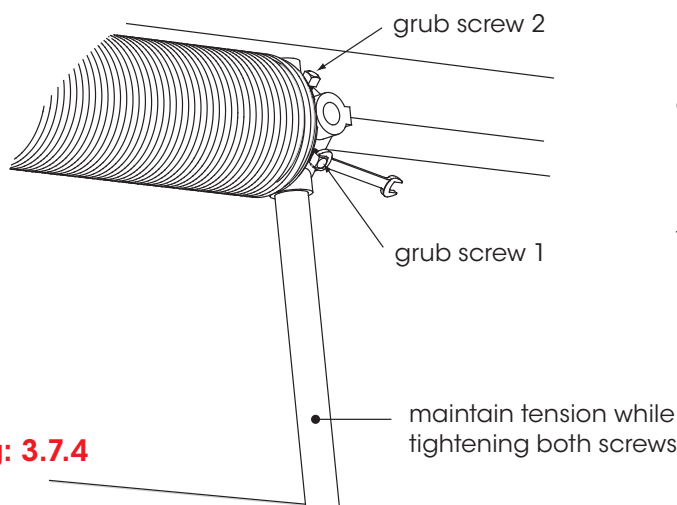

Fig: 3.7.4
d) Maintain firm tension on the winding bar, while using a spanner to tighten the two (2) grub screws. Fig 3.7.4.